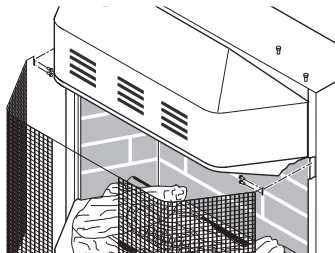
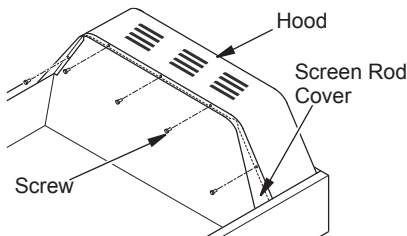
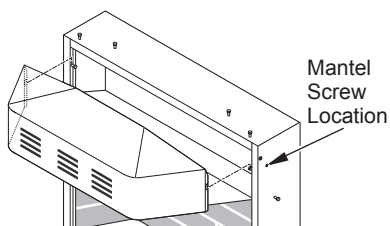

Figure 10 - Removing Screen
Figure 11 - Removing Hood Screws
Figure 12 - Removing Hood
2. Remove screen from fireplace by removing screws in each end of screen rod (see Figure 10). Hold screen rod cover while removing five hex head screws underneath hood (see Figure 11). Carefully lift and pull out hood (see Figure 12, page 12).
11. Attach remaining two 3" wood screws from hardware pack through openings inside of fireplace sides into the mantel. See Figure 12 for screw hole location.